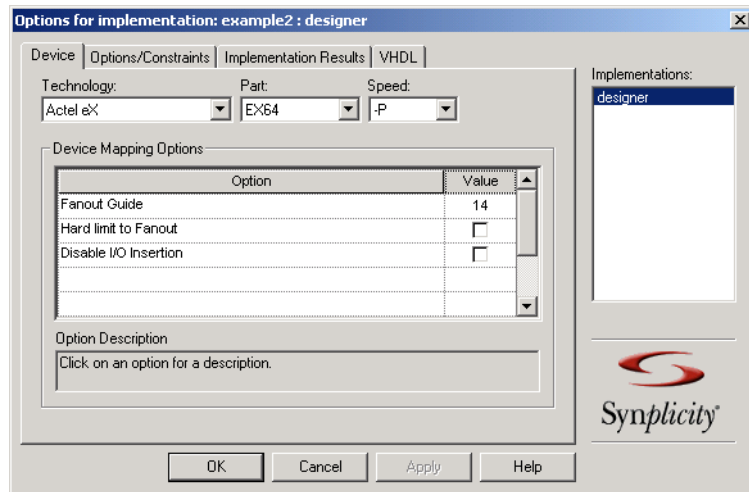

Figure 6-4. Synplify's Options for Implementation Dialog Box
2. **From Synplify's Project menu, click *Implementation Options*.** This displays the Options for Implementation dialog box, as shown in Figure 6-4.